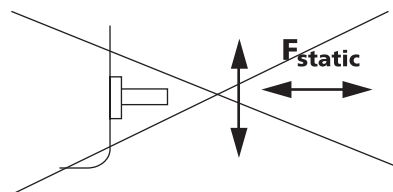

Figure 35
- For manual tripping a force of up to 250 N may be applied to the interlocking pins. However no static force shall be applied (Figure 35).